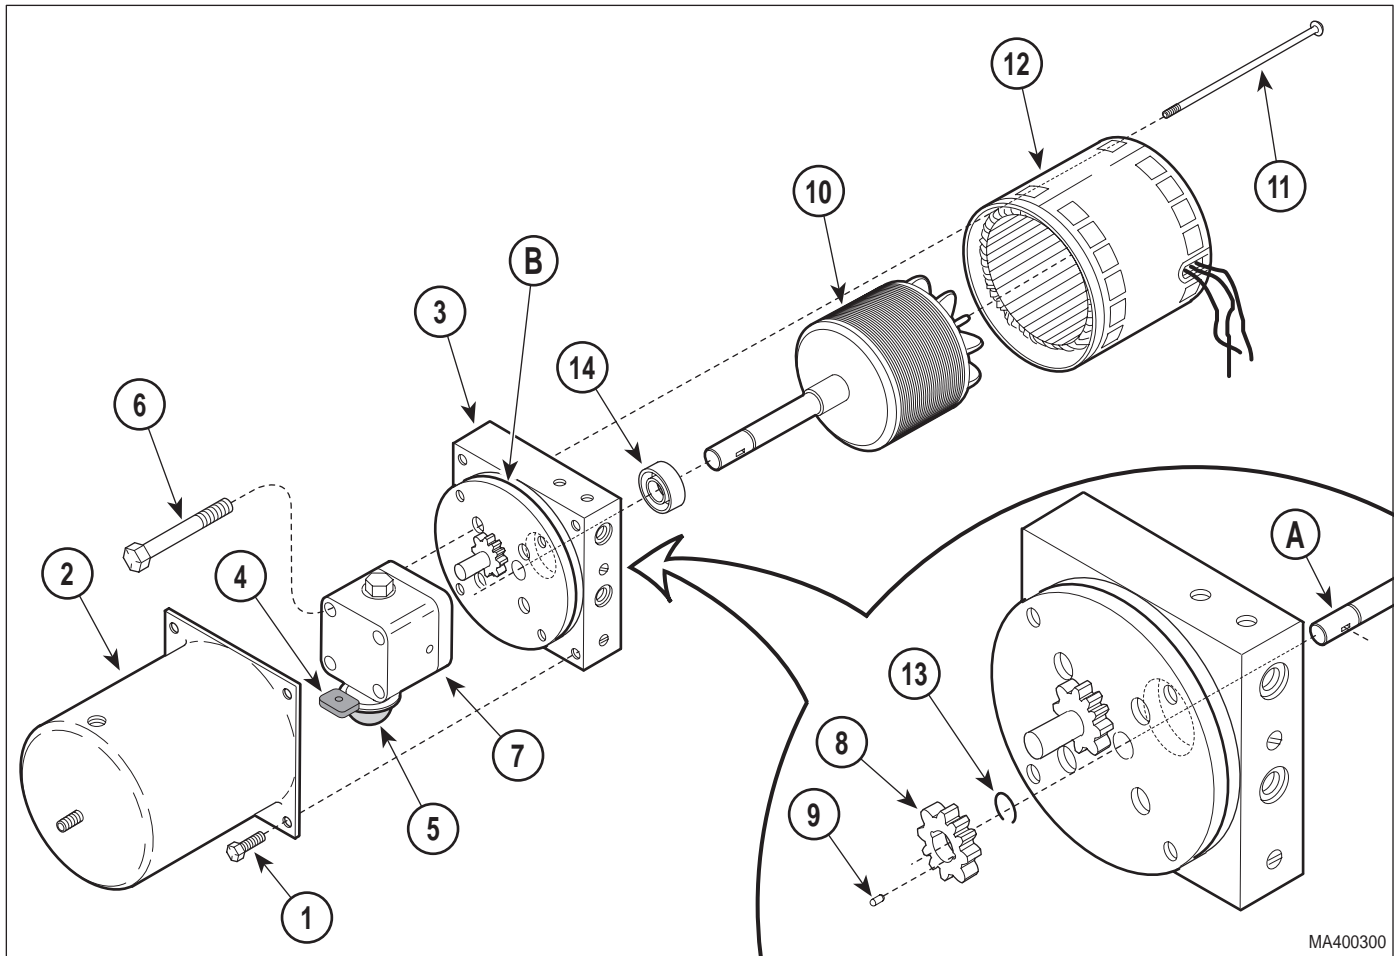

Figure 4-10. Motor Shaft Seal Removal / Installation
- (3) Remove four screws (1, Figure 4-10) and reservoir (2) from manifold block (3).
- (4) Remove magnet (4) from strainer (5).
- (5) Remove four screws (6) and pump housing (7) from manifold block (3).
- (6) Remove pump gear (8) and woodruff key (9) from shaft of rotor assembly (10).
- (7) Remove four screws (11) and motor housing (12) from manifold block (3).
- (8) Push rotor assembly (10) inward toward manifold block (3); then remove retaining ring (13) from end of rotor assembly shaft.
- (9) Remove rotor assembly (10) from manifold block (3).
- (10) Using a screwdriver, pry motor shaft seal (14) out of manifold block (3).